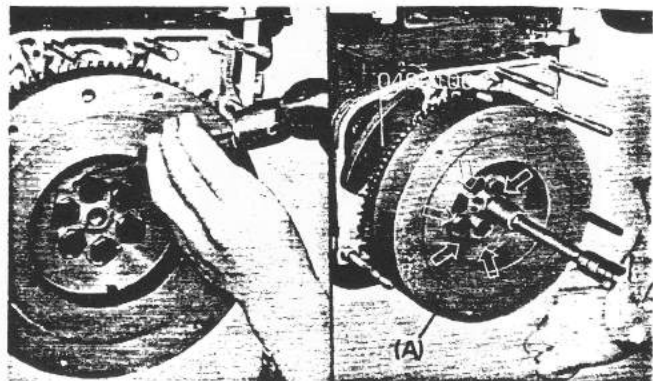

Fig. 26
- b. As shown in Fig. 26, raise up the lock washer of its bent portion.
- c. As shown in Fig. 26, install the special tool (No. 0490100 RING GEAR BRAKE) so that the crankshaft and flywheel cannot be rotated.
- d. Remove 6 pcs. of the lock bolts and remove the flywheel (A) from the crankshaft.